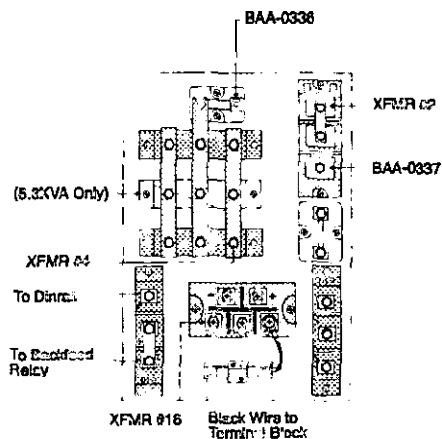

Figure 8: 4.3, 5.3KVA
If your unit has the optional charger assembly as shown in Figure 8 or 9, follow the instructions for the 10-amp or 20-amp charger. If not, follow the instructions for the 5-amp charger.
- a. Measure across the charger shunt on the charger assembly. See Figure 8 or 9 on page 10 to find the shunt.
- b. To determine what size charger your UPS has, see the fuse on the charger assembly. (See Figure 8 or 9 on page 10.) If the fuse is a 30-amp fuse, the unit has a 10-amp charger. If the fuse is a 60-amp fuse, the unit has a 20-amp charger.